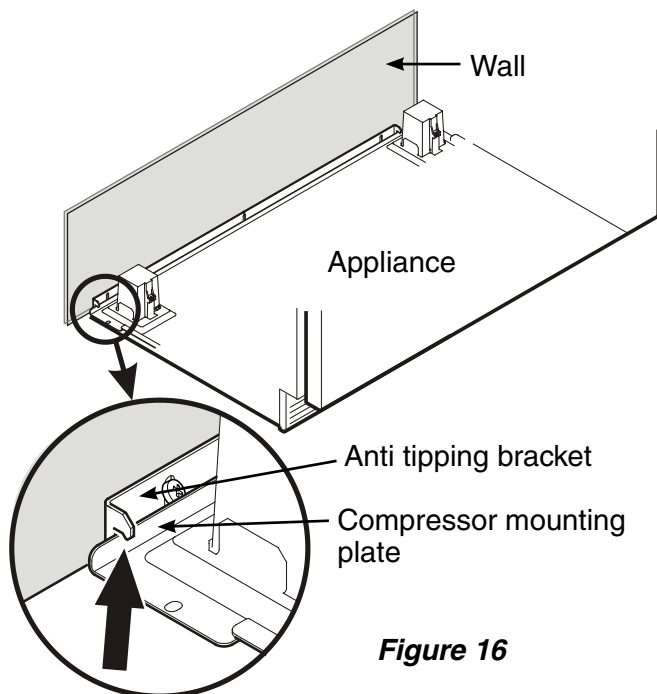

**Figure 15**
2. Insert the water supply line into its intended opening at the back of the appliance (**Figure 15**).